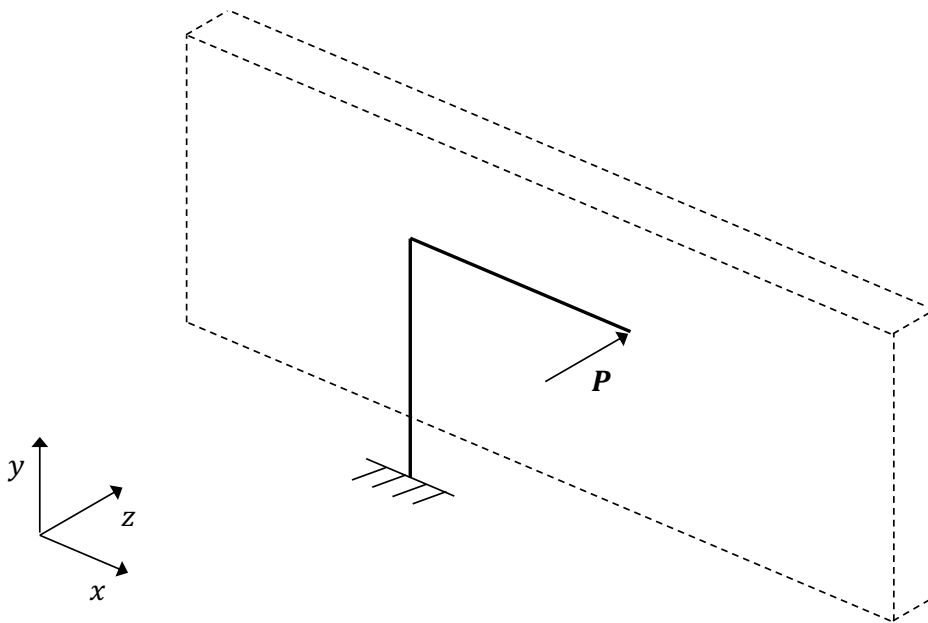
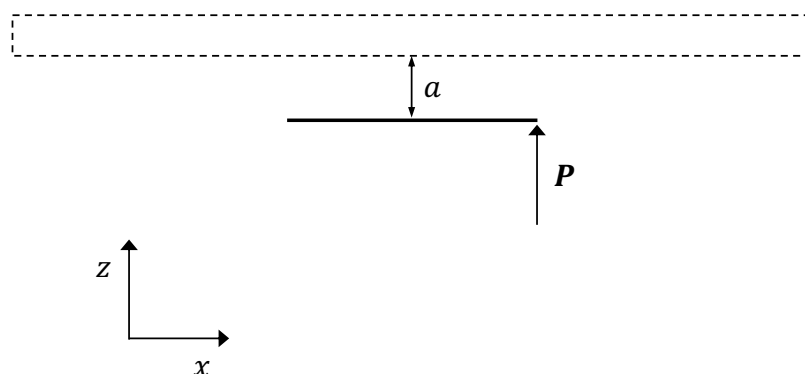

Figure Q24a
Figure Q24b
24. Figure Q24a shows a right-angle beam, built into the floor at one end and subjected to a point load, P , at the other, free end. The beam is made from steel bar, circular in cross section, with a diameter, ϕ , of 50 mm, a Young's Modulus, E , of 209 GPa and a Shear Modulus, G , of 72 GPa. The beam initially stands on the $x - y$ plane at a distance, a , of 75 mm, from a nearby parallel wall, as shown in Figure Q24a. P is applied in the z -direction and has a magnitude of 2.5 kN. Both straight regions of the beam are 1 m in length. Figure Q24b shows the beam and wall viewed on the $x - z$ plane.